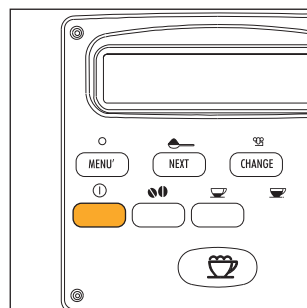

Fig.6
1. Press the ① button (fig. 6). The appliance displays: